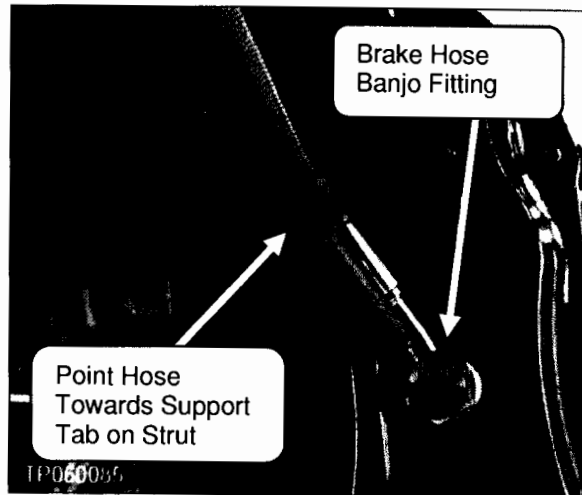

Figure 2
7. Hand tighten the banjo-fitting-end of the brake hose to the brake caliper making sure the brake hose points towards the support tab on the strut (see Figures 2 and 4).